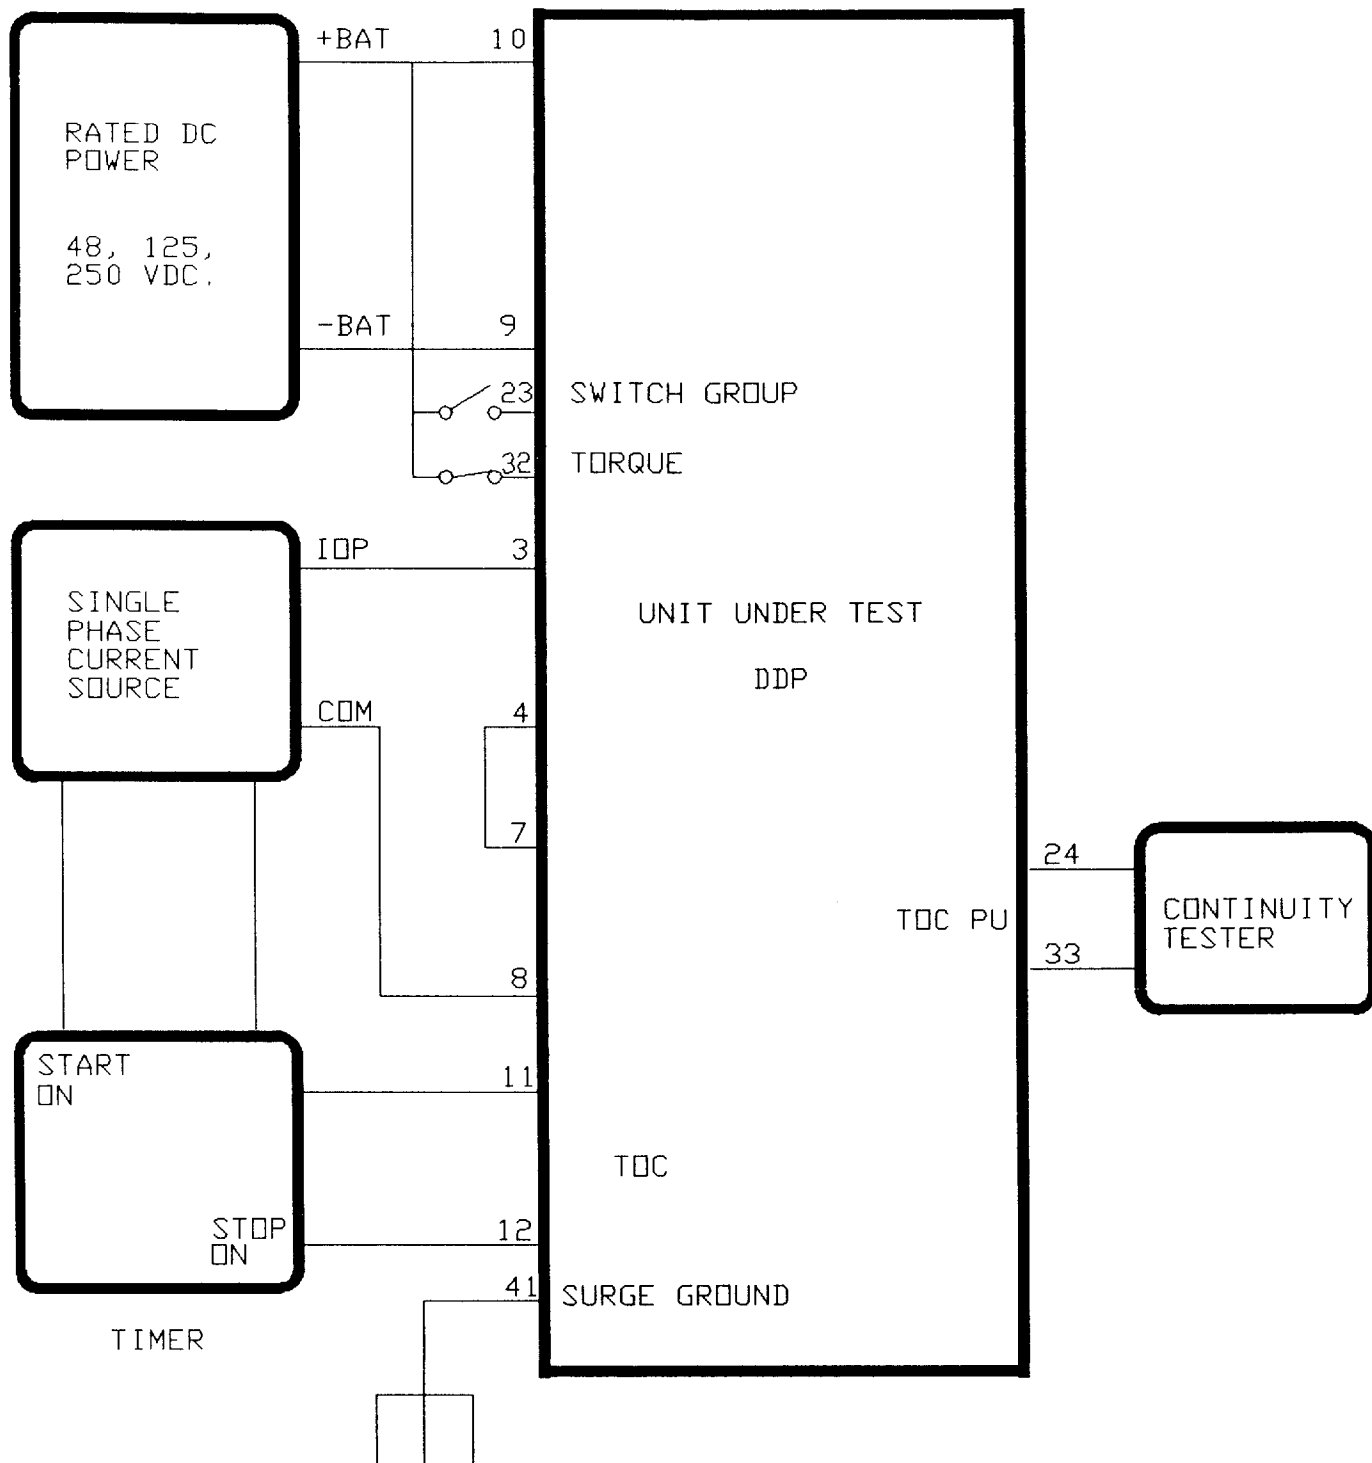

Figure AT-7(0285A5382 [2]) DDP TOC Ground Trip Test Connections
1. Connect the relay as shown in figure AT-7